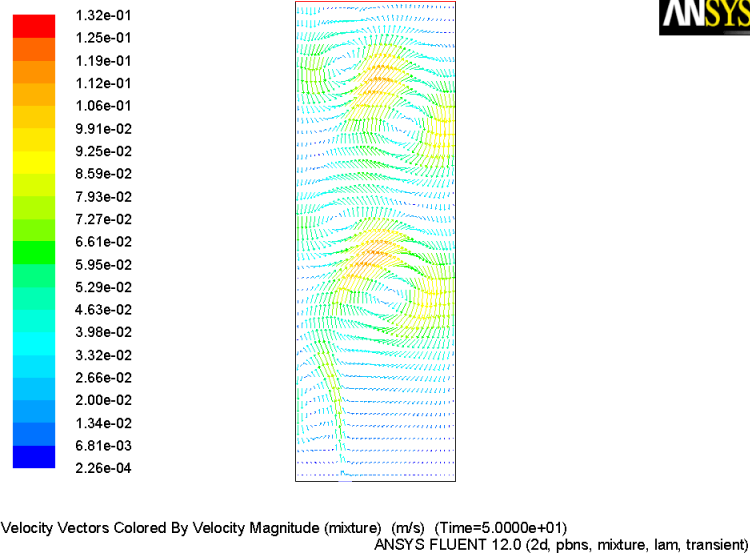

Figure 4: Velocity Vectors for the Bubble Column
3. Display velocity vectors (Figure 4).